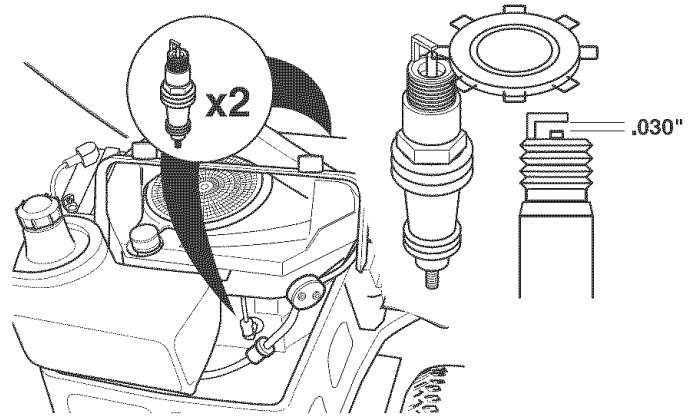

Figure 35. Spark Plug Gapping
4. Check the spark plug gap. It should be .030" (see Figure 35).